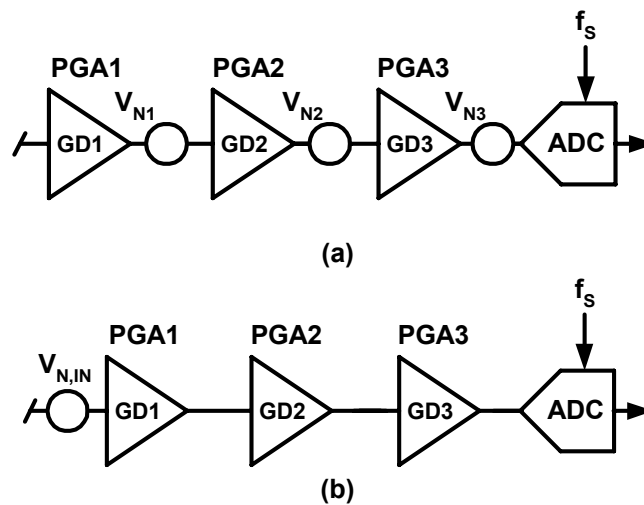
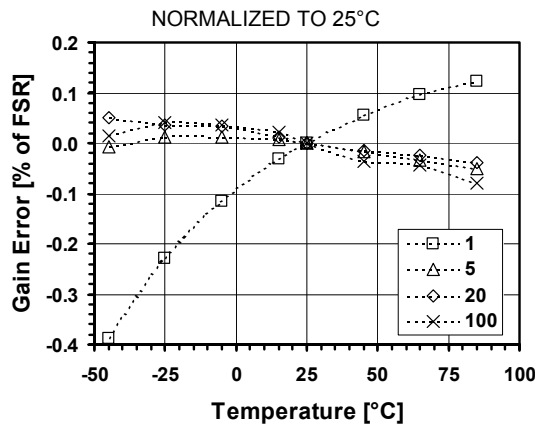

Figure 16-18 (a) Simple noise model for PGAs and ADC and (b) total input referred noise
Figure 16-19 Gain error vs. temperature for different PGA gains
- (1) Gain defined as overall PGA gain  $GD_{TOT} = GD_1 \cdot GD_2 \cdot GD_3$ . Maximum input voltage is given by:  $V_{IN,MAX} = \pm(V_{REF}/2) \cdot (OSR/OSR+1)$ .
- (2) Offset due to tolerance on  $GDoff_2$  or  $GDoff_3$  setting. For small intrinsic offset, use only ADC and PGA1.
- (3) Measured with block connected to inputs through AMUX block. Normalized input sampling frequency for input impedance is  $f_s = 512kHz$ . This figure must be multiplied by 2 for  $f_s = 256kHz$ , 4 for  $f_s = 128kHz$ . Input impedance is proportional to  $1/f_s$ .
- (4) Figure independent from PGA1 gain and sampling frequency  $f_s$ . See model of Figure 16-18(a). See equation Eq. 21 to calculate equivalent input noise.
- (5) Figure independent on PGA2 gain and sampling frequency  $f_s$ . See model of Figure 16-18(a). See equation Eq. 21 to calculate equivalent input noise.
- (6) Figure independent on PGA3 gain and sampling frequency  $f_s$ . See model of Figure 16-18(a) and equation Eq. 21 to calculate equivalent input noise.
- (7) Resolution is given by  $n = 2 \cdot \log_2(OSR) + \log_2(N_{ELCONV})$ .  $OSR$  can be set between 8 and 1024, in powers of 2.  $N_{ELCONV}$  can be set to 1, 2, 4 or 8.
- (8) If a ramp signal is applied to the input, all digital codes appear in the resulting ADC output data.
- (9) Gain error is defined as the amount of deviation between the ideal (theoretical) transfer function and the measured transfer function (with the offset error removed). (See Figure 16-19)
- (10) Offset error is defined as the output code error for a zero volt input (ideally, output code = 0). For  $\pm 1$  LSB offset,  $N_{ELCONV}$  must be  $\geq 2$ .
- (11) INL defined as the deviation of the DC transfer curve of each individual code from the best-fit straight line. This specification holds over the full scale.
- (12) DNL is defined as the difference (in LSB) between the ideal (1 LSB) and measured code transitions for successive codes.
- (13) Figures for Gains = 1 to 100. PSRR is defined as the amount of change in the ADC output value as the power supply voltage changes.
- (14) Conversion time is given by:  $T_{CONV} = (N_{ELCONV} \cdot (OSR + 1) + 1) / f_s$ .  $OSR$  can be set between 8 and 1024, in powers of 2.  $N_{ELCONV}$  can be set to 1, 2, 4 or 8.
- (15) PGAs are reset after each writing operation to registers **RegAcCfg1-5**. The ADC must be started after a PGA or inputs common-mode stabilisation delay. This is done by writing bit Start several cycles after PGA settings modification or channel switching. Delay between PGA start or input channel switching and ADC start should be equivalent to  $OSR$  (between 8 and 1024) number of cycles. This delay does not apply to conversions made without the PGAs.
- (16) Nominal (maximum) bias currents in PGAs and ADC, i.e. **IB\_AMP\_PGA[1:0] = '11'** and **IB\_AMP\_ADC[1:0] = '11'**.
- (17) Bias currents in PGAs and ADC set to 3/4 of nominal values, i.e. **IB\_AMP\_PGA[1:0] = '10'**, **IB\_AMP\_ADC[1:0] = '10'**.
- (18) Bias currents in PGAs and ADC set to 1/2 of nominal values, i.e. **IB\_AMP\_PGA[1:0] = '01'**, **IB\_AMP\_ADC[1:0] = '01'**.
- (19) Bias currents in PGAs and ADC set to 1/4 of nominal values, i.e. **IB\_AMP\_PGA[1:0] = '00'**, **IB\_AMP\_ADC[1:0] = '00'**.
The simple noise model of Figure 16-18(a) is used to estimate the equivalent input referred rms noise  $V_{N,IN}$  of the acquisition chain in the model of Figure 16-18(b). This is given by the relationship:
Note: see noise model of Figure 16-18 and equation Eq. 21.
Figure 16-19 shows gain error drift vs. temperature for different PGA gains. The curves are expressed in % of Full-Scale Range (FSR) normalized to 25°C.